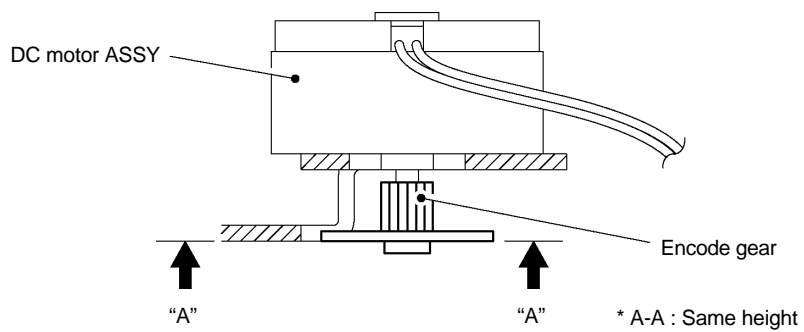

Fig. 2.2-30b Installing the DC motor ASSY
- (2) Squeeze the encode gear so that it is engaged with the double gear with taking care not to damage the gear. (For the squeezed height, refer to the Fig 2.2-30b.)
- (3) Install the photo interrupter ASSY with two screws.